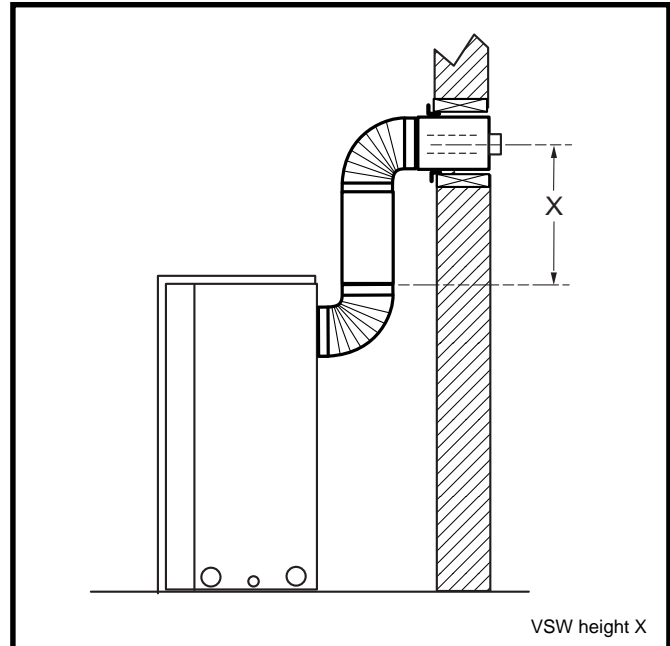

Fig. 26 Vertical height requirements.
Place fireplace into position. Measure the vertical height (X) required from the base of the flue collars to the center of the wall opening (Fig. 26).